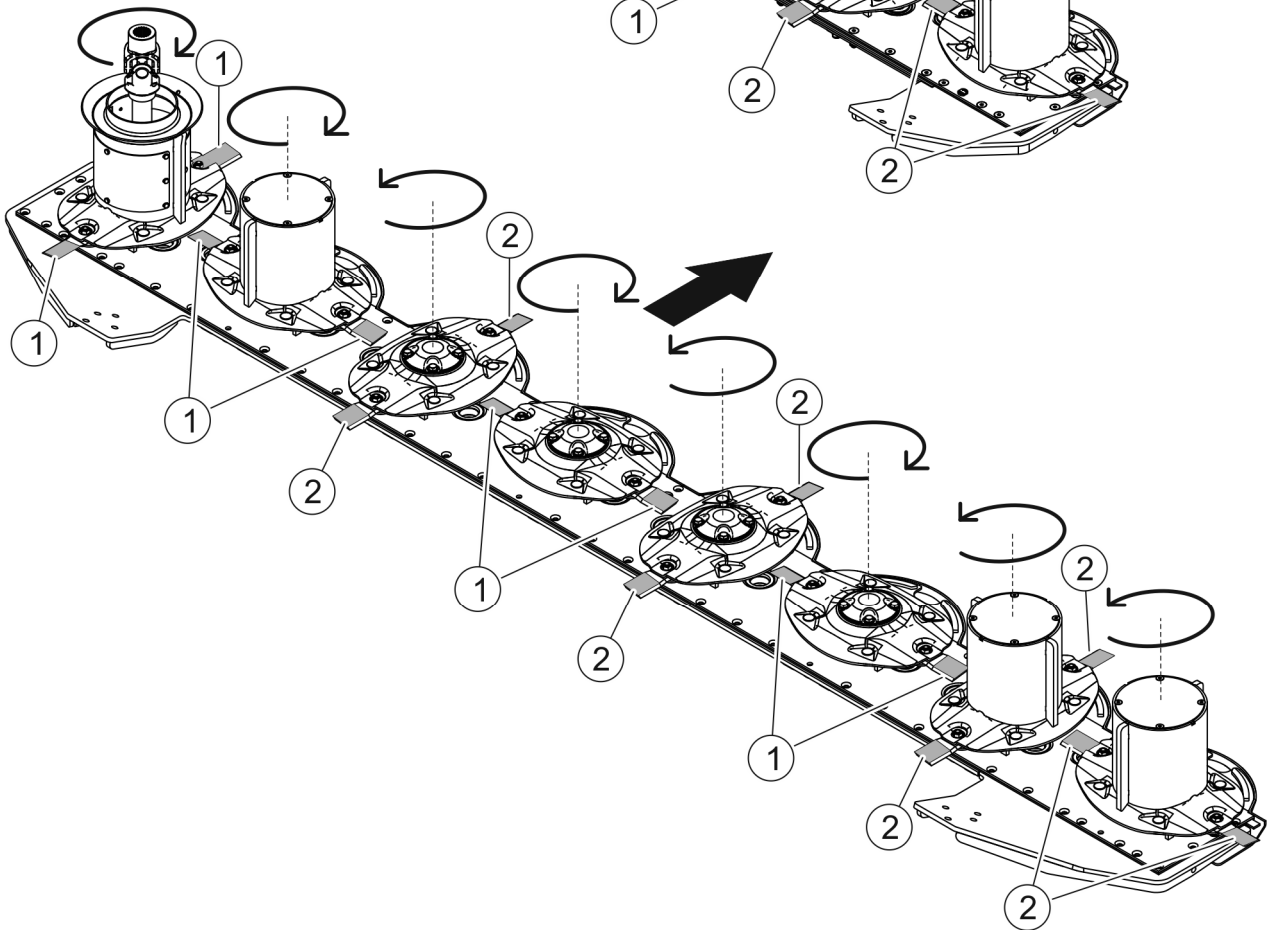

FIGURE 5.2 **Cutting disc rotation direction**
(1) right cutting knife, (2) left cutting knife
Due to different cutting disc rotation direction, cutter bar (FIGURE 5.2) is equipped with the right blades (A) and left blades (B). Rotation direction is indicated on the knife..